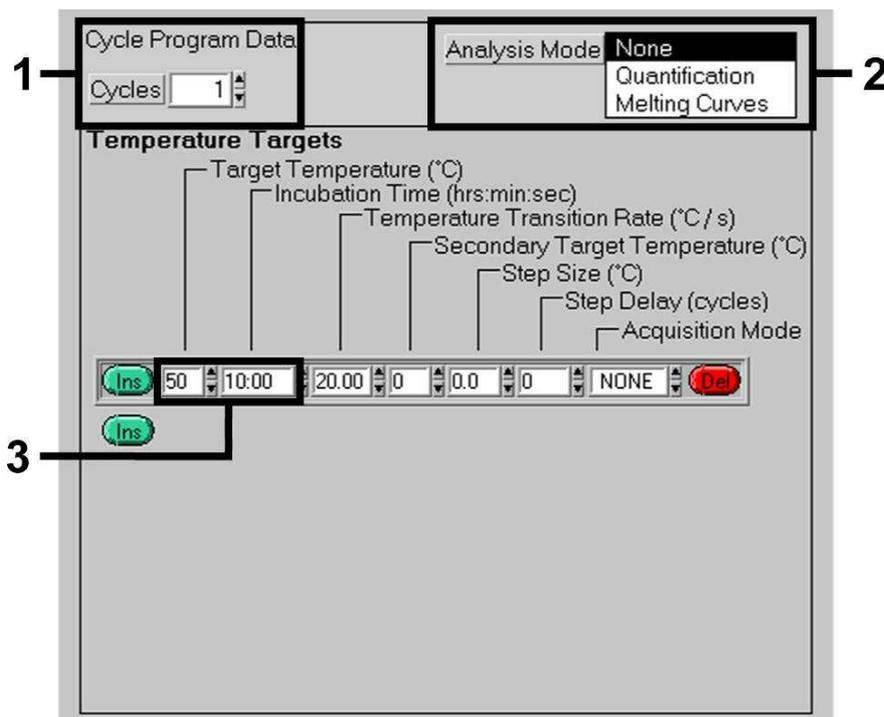

Fig. 3: Reverse Transcription of the RNA.
For the detection of Enterovirus RNA, create a temperature profile on your *LightCycler*® Instrument according to the following four steps (see Fig. 3 - 6).
- A. Reverse Transcription of the RNA Fig. 3